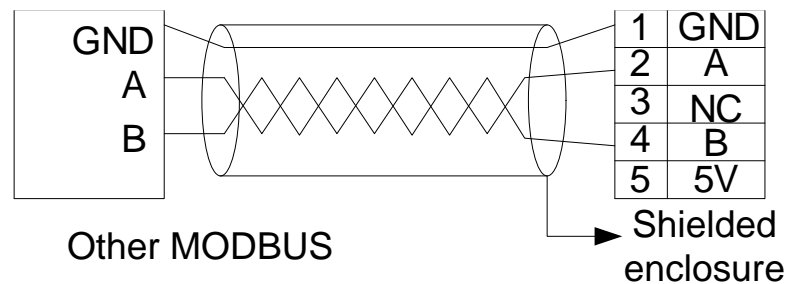

图 7.1
- (1) The address of the HHS (function code 16) must be in accordance with the control address of the controller; the baud rate (function code 17); even-odd check (function code 18) is the same as the controller; the parameter must be reset to power up
- (2) If not receiving the response data, the parameters should be set to check the above, the 485 terminal connection is correct, the CRC effect is correct.
- (3) More than one HHS communication, should be at the end of the last AB on both ends of the 120 ohm resistance
- (4) In connection with other MODBUS devices, as shown in Figure 7-1